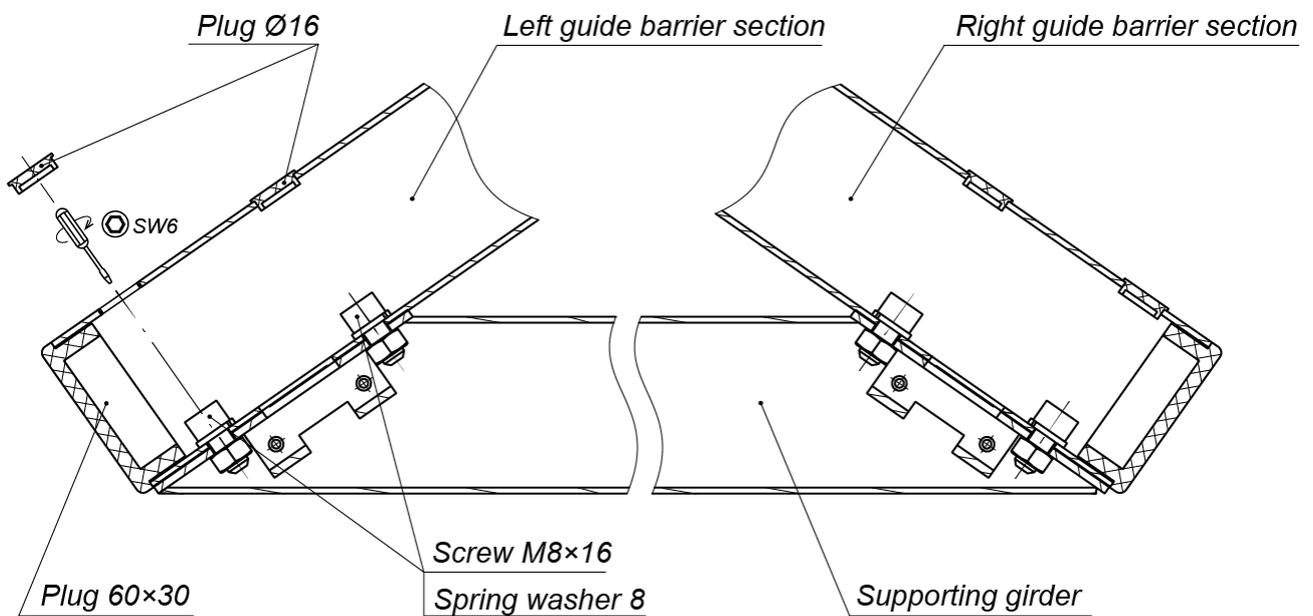

Figure 15. Fixing of the supporting girder to the barrier sections
- Erect the guide barrier sections (6) on the mounting surface so that the holes of supporting flanges coincide with the positioning of anchor bolts. Left and right sections should have right positioning and orientation: indication blocks of the guide barrier sections should be turned out of the axis of symmetry (see Fig. 2) consider the positioning of the support post fixing points on the sections (see Fig. 15).
14. Install the supporting girder (7) on the guide barrier section (6) (see Fig. 15):
20. Use the plastic plugs Ø16 to cover the bolt holes in the joints connecting the rotor section (2) and supporting girder (7) to the section (6) of guide barriers set (Fig. 15 and 19).